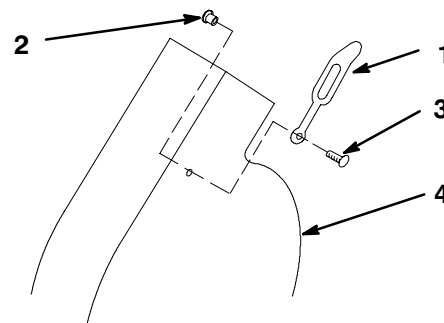

Figure 8
1. Install the discharge rubber latch onto new blower housing as shown in figure 8.